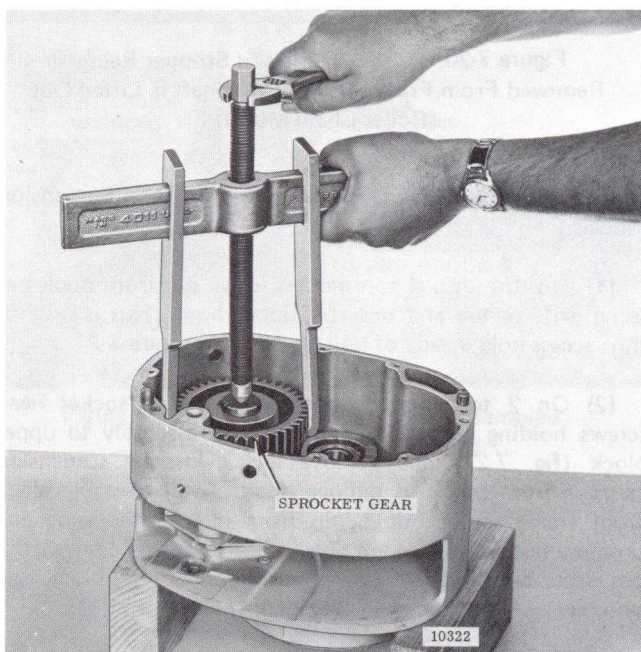

Figure 7-13. Pulling Sprocket Gear from Sprocket Shaft Using Common Puller
(1) Remove retaining ring from end of sprocket shaft and pull off sprocket gear using a common puller (fig. 7-13). Remove Woodruff key from shaft.